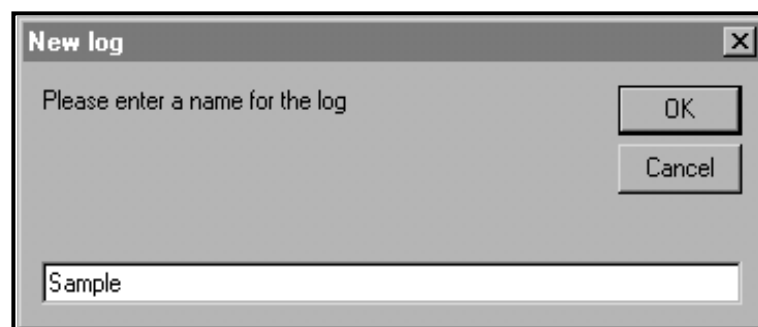

Figure 17: Log Name Dialog Box
5. Enter a log file name ("Sample" in this case) in the dialog box shown in Figure 17. Click on the **[OK]** option button.